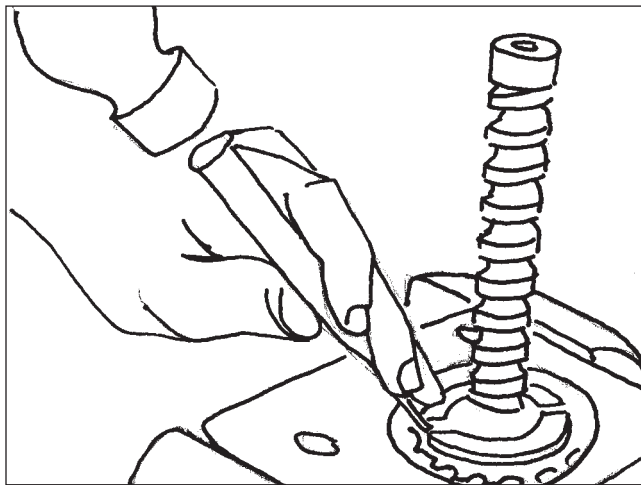

Figure 81
26. Stake the star nut at the slots in the shaft retaining nut (Figure 81).